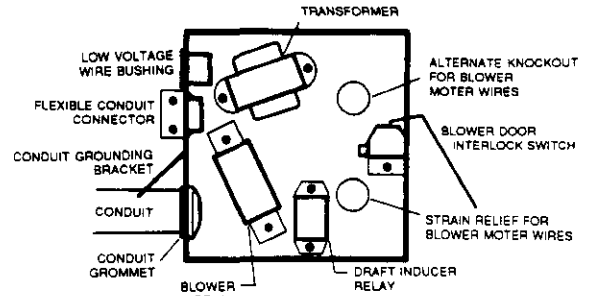
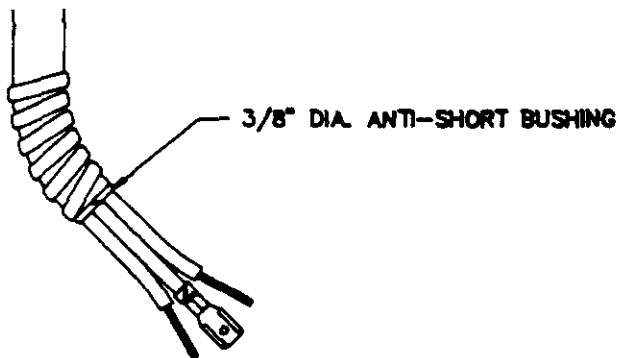
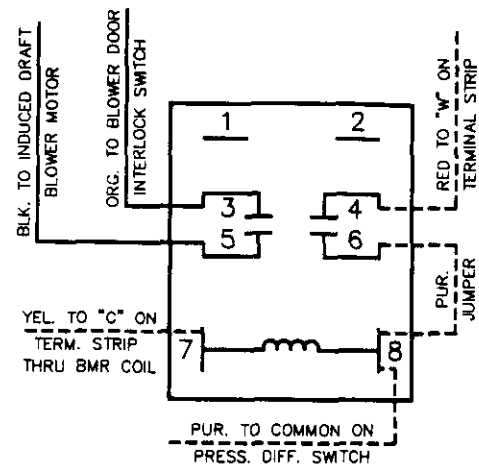
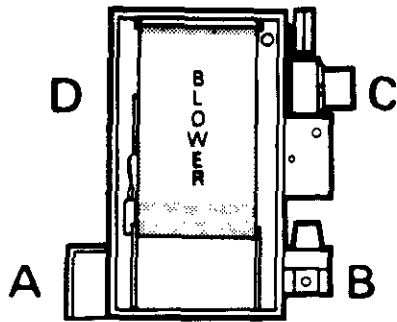

Figure 32 (4-065)
Figure 36 (4-062)
Figure 37 (4-044)
Figure 38 (4-043)
- a. **Line voltage wiring:** See Figure 32 to identify junction box components. Remove blower motor, red or blue wire from spliced fan/limit control brown wire. Remove blower motor black wire from blower relay, terminal "N.O.". Remove blower motor white wire from spliced transformer primary, white wire. Remove fan/limit control, black wire from blower relay, terminal "N.C.". Remove 3/4"-strain relief bushing from back of junction box.
- Remove junction box alternate knockout in back of junction box. See Figure 32 for location of alternate knockout.
3. Remove junction box cover. Inspect end of flexible conduit from draft inducer to be sure that orange plastic anti-short bushing is still in conduit. See Figure 36. Locate flexible conduit connector, shown in Figure 32.
5. Locate draft inducer relay shown in Figure 32. Using Figure 38 and the wiring diagram enclosed separately, attach black wire from flexible conduit to terminal #5 on draft inducer relay. Attach white wire from flexible conduit to 115-volt common power supply. Attach green wire to green grounding pigtail junction box.
2. Relocating controls and draft inducer from as-shipped position. You may move controls to position "B" and draft inducer and pressure switch to position "C" shown in Figure 38.
3. Remove junction box cover. Inspect flexible conduit end from draft inducer to be sure that orange plastic anti-short bushing is in conduit. See Figure 36. Locate flexible conduit connector shown in Figure 32.
5. See Figure 32 for draft inducer relay location. Follow Figure 37 and furnace wiring diagram enclosed separately. Attach black wire from flexible conduit to terminal #5 on draft inducer relay. Attach white wire from flexible conduit to 115-volt common power supply. Attach green wire to green junction box grounding pigtail.